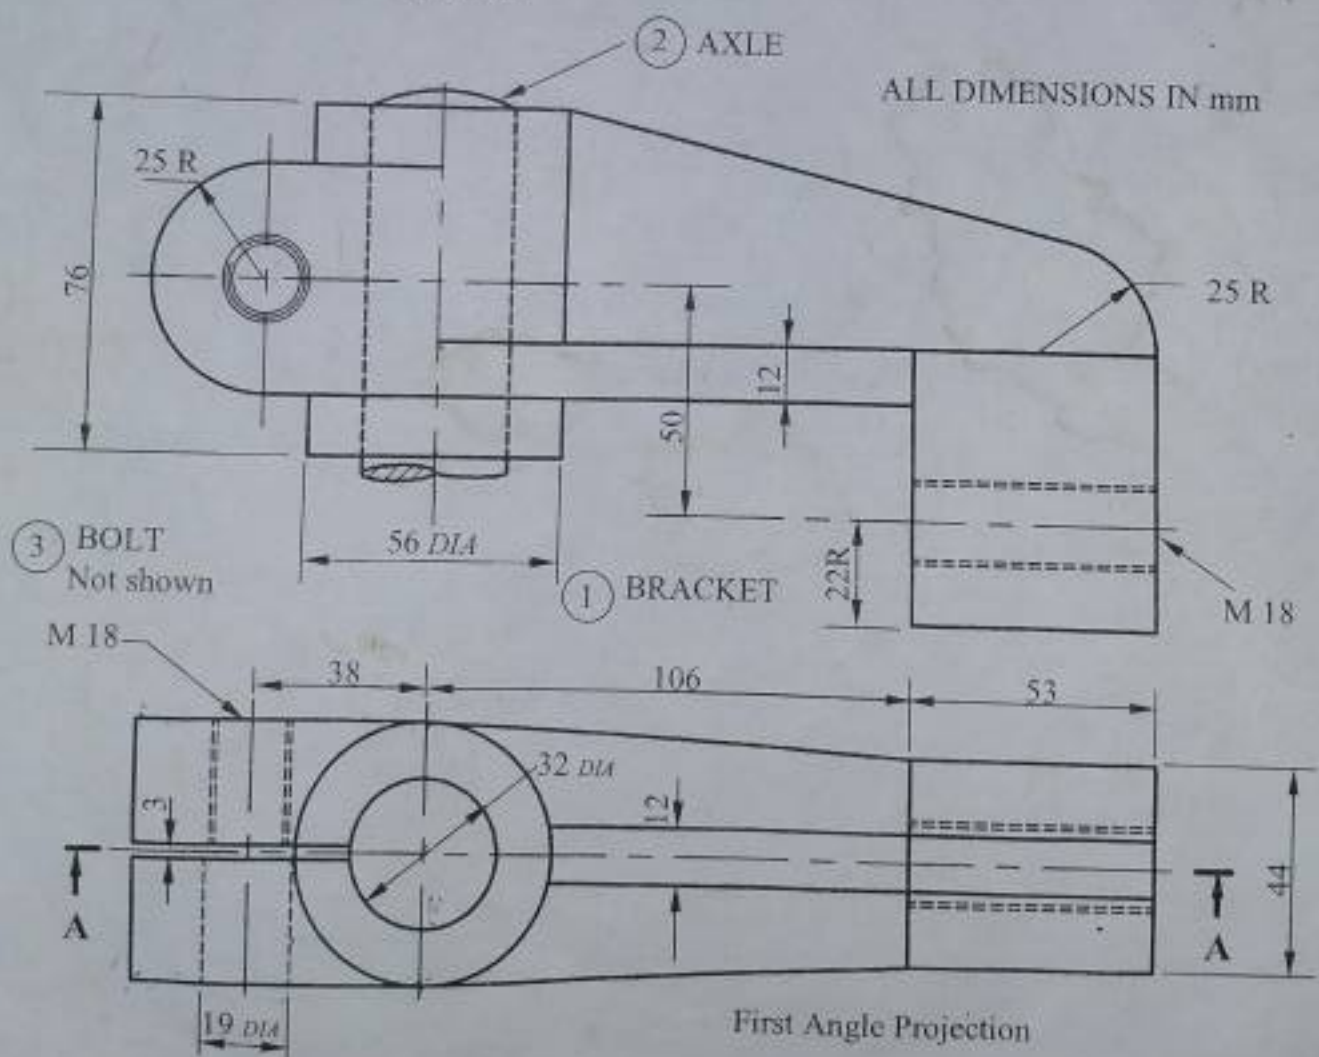

Figure 1
1. Figure 1 shows two views of a GEAR-CHANGE LEVER bracket from a lathe. When in use, bracket (1) is clamped to the 32 mm diameter axle by a bolt passing through the 19 mm diameter hole and screwed into M 18 threaded hole. Bolt (3) is hexagon – headed, 62 mm long, with the thread running for 44 mm.